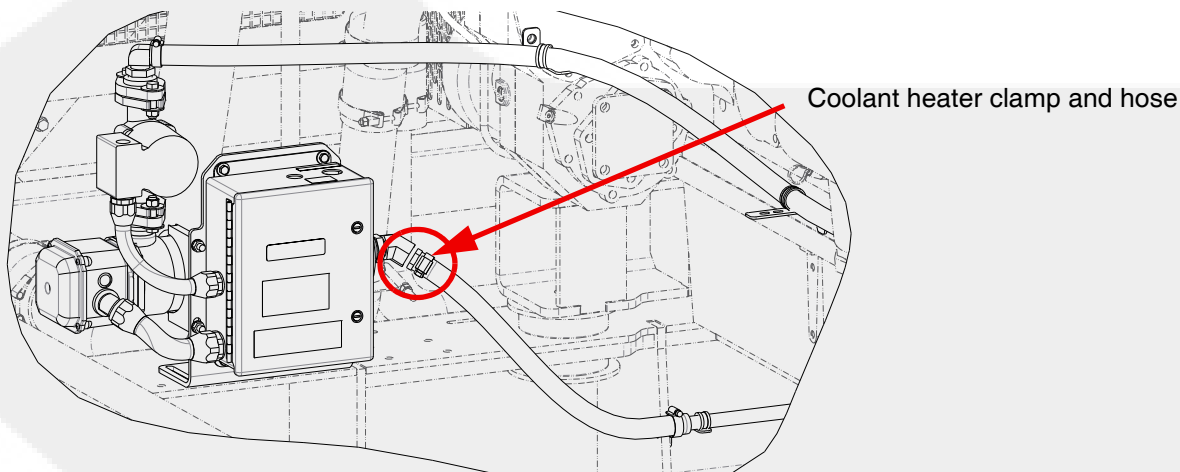

Figure 7-25 Coolant heater clamp and hose (GenSet right side)
8. Drain the coolant from the coolant heater by removing the clamp and hose from the bottom of the heater (Figure 7-25).